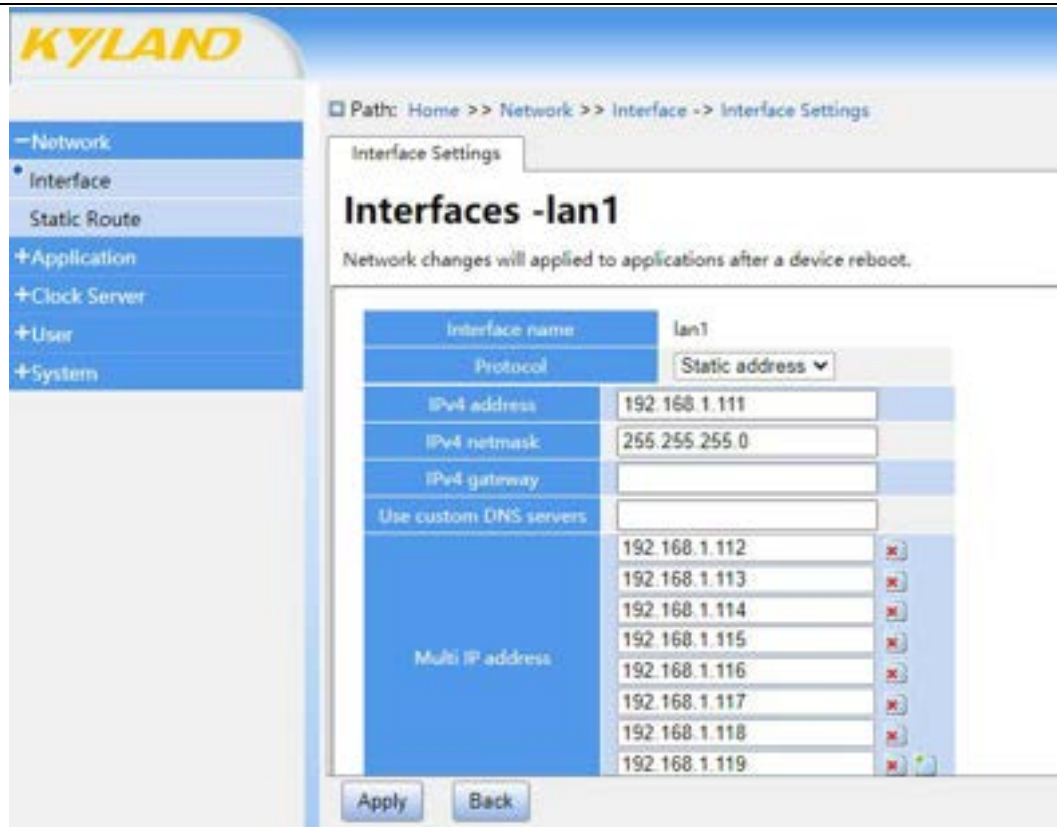

Figure 5 Configuring secondary IP
2. Configure multiple IP addresses. You can manually configure the secondary IP address of the device IP interface, as shown in Figure 5.